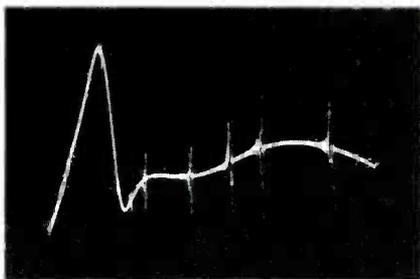

Fig. 10 Typical response curve of the 4th IF viewed at test point C2. 41.25 MHz is the highest point on the curve.
9) Adjust C129 so that the height of the curve at the 45.75-MHz marker is one/half that obtained in the previous step (See Fig. 10).